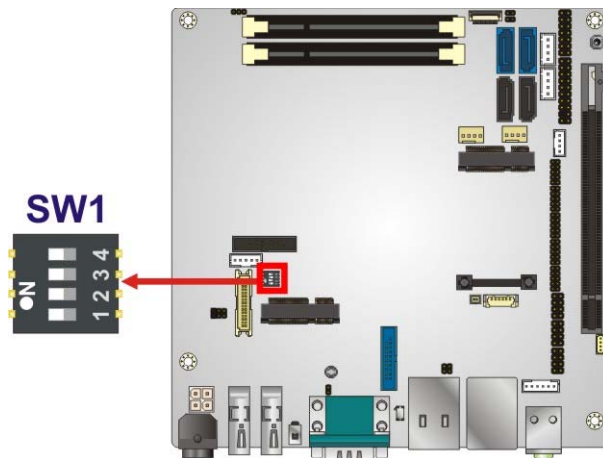

Figure 4-11: LVDS Resolution Selection Jumper Location
- Jumper Location:** See **Figure 4-11**